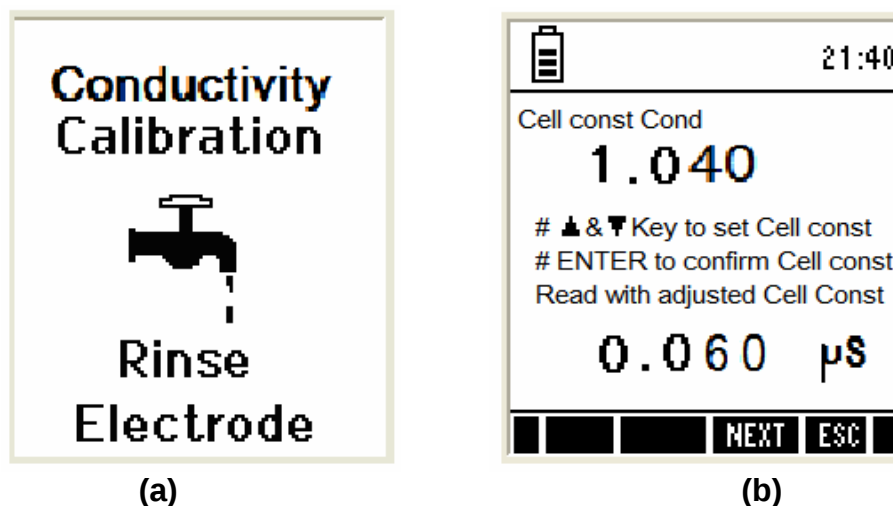
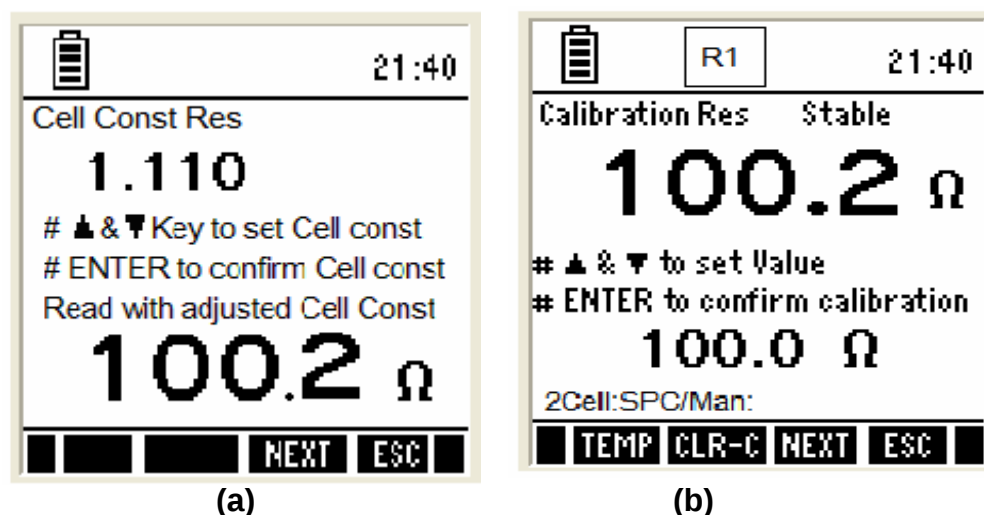
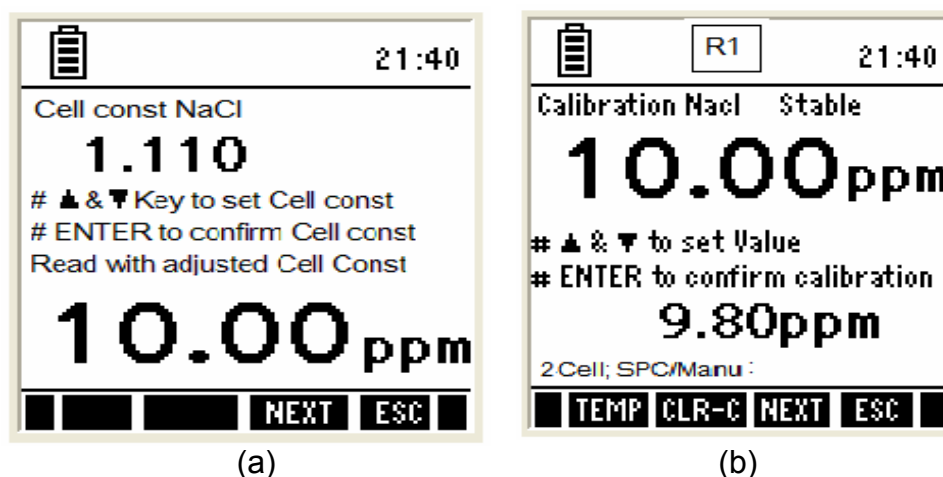

Figure 33 : Calibration Screens
Figure 37 : Resistivity Cell constant & resistivity calibration
Figure 39 : Salinity Cell constant & salinity calibration
7. When the correct password is entered, the 'Calibration – Rinse Electrode' screen appears (Refer Figure 33-(a)).
3. The meter shows 'Calibration-Rinse Electrode' screen Figure 33-(a)] for few seconds and then shows the cell constant adjustment screen.
4. The meter shows 'Calibration-Rinse Electrode' screen [Figure 33(a)] for few seconds to prompt user to rinse electrode with de-ionized water before calibration (Refer 'Prepare the Meter for Calibration' section in page 29).
4. The meter then shows cell constant adjustment screen [Figure 33-(b)]. The upper display shows the cell constant of the conductivity cell & lower display shows the measured value of the solution with adjusted cell constant with respect to default calibration. Press ▲ & ▼ keys to adjust the cell constant for your custom solution in upper display.
3. The meter shows 'Calibration-Rinse Electrode' screen [Figure 33-(a)] few seconds and then shows the cell constant adjustment screen [Figure 37-(a)].
4. The upper display of the resistivity cell constant screen [Figure 37-(a)] shows the resistivity cell constant of your solution & lower display shows the measured value of the solution with adjusted cell constant. Press ▲ & ▼ keys to adjust the cell constant for your custom solution in upper display.
3. The meter shows 'Calibration-Rinse Electrode' screen [Figure 33-(a)] few seconds and then shows the cell constant adjustment screen [Figure 39-(a)].
4. The upper display of the cell constant adjustment screen [Figure 39-(a)] shows the salinity cell constant of your solution & lower display shows the measured value of the solution with adjusted cell constant. Press ▲ & ▼ keys to adjust the cell constant for your custom solution in upper display.